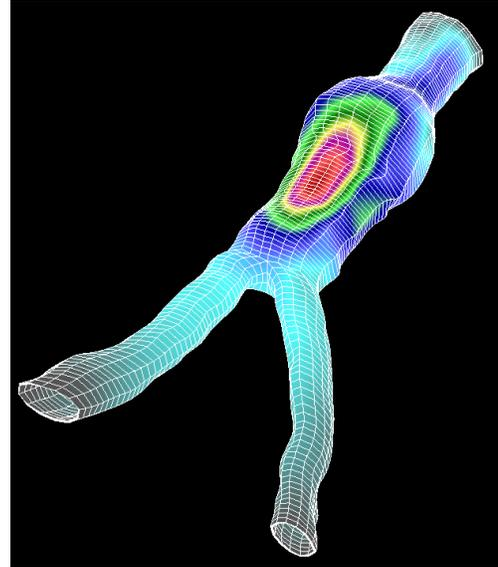

**Figure 20** – Lumen meshes of single and bifurcation type model with velocities vectors, pressure and shear stress distribution respectively are shown
**Lumen** FEM button is used in situations when only blood flow simulations are needed. In those cases only finite element mesh representing lumen of the blood vessel is generated from detected contours. Available results are **velocity**, **pressure** and **shear stress** distribution across the model **Figure 20**.